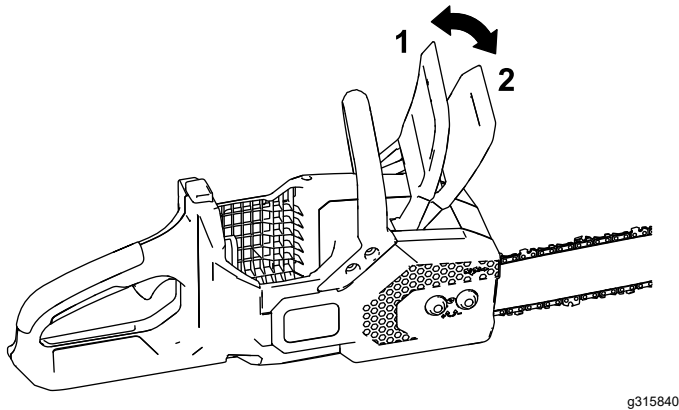

Figure 27
1. Engage the chain brake by moving the chain brake forward to the STOP position (Figure 27).
4. Disengage the chain brake by moving the chain brake rearward to the OPERATING position (Figure 27).
4. Ensure that the chain brake is in the OPERATING position (Figure 27).